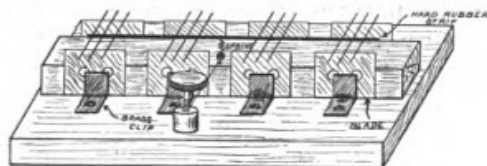
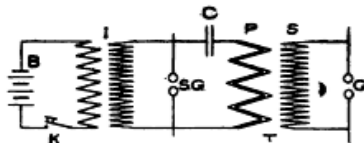

Fig. 1
Fig 2
The construction of the base is clearly shown in Fig. 1. No very definite dimensions are necessary nor can they be easily given, for the sizes of razor blades vary considerably. This leaves the experimenter free to utilize what material he may have on hand.
The new method is creating considerable interest in Europe, as it is claimed to solve the much-sought problem of directing waves to a desired station. The radio-goniometer is used in connection with a triangular antenna (Fig. 1), having the two main wires E F supported on a single mast G and connected with the instruments at the station. There are two sets of triangular antennae placed at right angles (Fig. 2), with the radio-goniometer R mounted as shown. It consists of a central coil S which turns about a shaft so as to take any direction. This coil is connected to the usual wave-producing apparatus. A fixed coil M placed outside of the movable coil is connected to the set of mast wires A B. A second coil N of like construction is joined to the second set of mast wires lying at right angles (A-1, B-1) to the former set. The action of the mast systems, considered separately, is the following. When waves are set up in the system A B, the waves are given off in a general front and back direction from the plane of A B and not from the sides, seeing that
In the coil which we will here describe, hard rubber and oil will be replaced by glass and paraffine respectively, as these are the next best substitutes. Fig. 1 shows a vertical cross section of this coil. The primary coil consists of about twenty-five turns of large rubber-covered wire, such as flexible lamp cord, wound in one layer. It is wound on a glass gas lamp chimney. The tube on to which the secondary is wound is made of some hard wood such as maple. It is highly important that this should be entirely free from all moisture. After it has been turned to the proper dimensions it must be dried in a hot oven, after which it should be thoroughly soaked in boiling paraffine. This will render it entirely impervious to moisture. The secondary is wound on to this and consists of one layer of No. 32 or 34 D. C. C. copper wire. The ends of this layer should extend about an inch beyond those of the primary layer. It will be seen from the illustration that the relative position of the secondary and primary coils is the reverse of that in an induction coil; that is, the secondary lies within the primary. The upper terminal of the secondary is brought directly to the top through a glass tube; the lower terminal, on account of the great difference of potential
-FIG. 1-
plugs W W. These secondary terminals should be situated as far distant as possible, as the brush discharge from this current is very marked. The connections are shown in Fig. 2.
The primary of this coil may be thought of as analogous to the antennae of a wireless station which is transmitting, and the secondary as analogous to one receiving. In regarding the coil in this light, the value of condensers coupled to the spark of the transmitting apparatus in wireless telegraphy is clearly shown by the following: When the condenser C is not used with the coil, only a small current is noticeable at the disruptive terminals; but when the condenser is attached, as in Fig. 2, a multitude of high tension discharges occur.
The materials needed are two pieces of sheet lead 1/8 inch thick and 1/2 inch wide and 7 inches long, and two binding posts. The posts on battery carbons will do very well. Procure a battery jar 5x7 or 6x8 inches in size. The lead strips should be bent in the shape shown in Fig. 2 and holes drilled to fit the binding posts, in the strips 1 1/2 inches from bend in the short side of the strips. Fasten binding posts on strips, as shown in Fig. 2. The strips should fit tightly on the jar with binding posts on the outside. To operate, put strips on jar, as shown in Fig. 1, and fill jar with soft water to within one inch of the top. For 110 volts add two teaspoonsful of com-
- FIG. 1 -
- FIG. 2 -